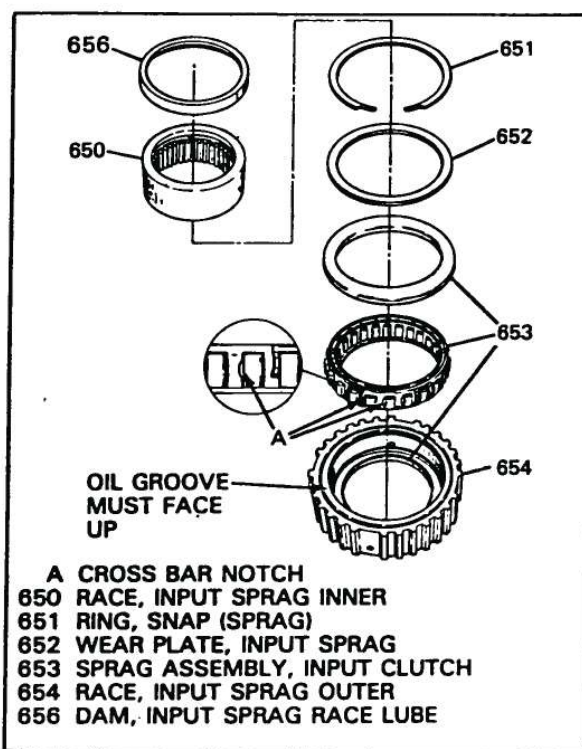

Figure 71
12. Install input sprag assembly into the outer race with the notches positioned as shown in Figure 71. Make certain that the oil groove is facing up as shown in Figure 71.